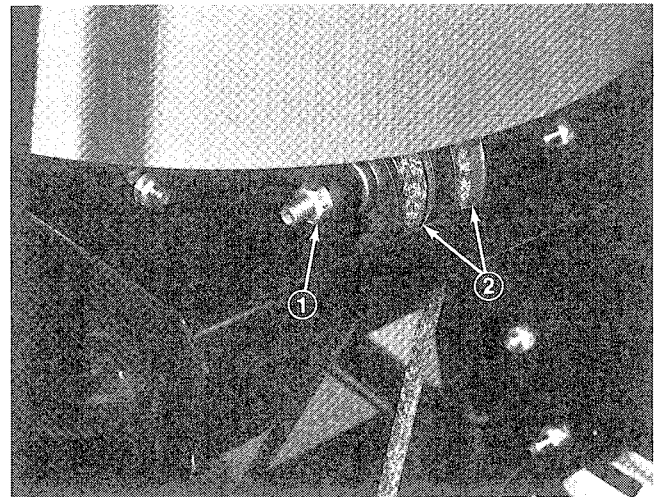

Figure 24
2. Loosen nut and slide pulley until belt is at proper tension (Fig. 24).